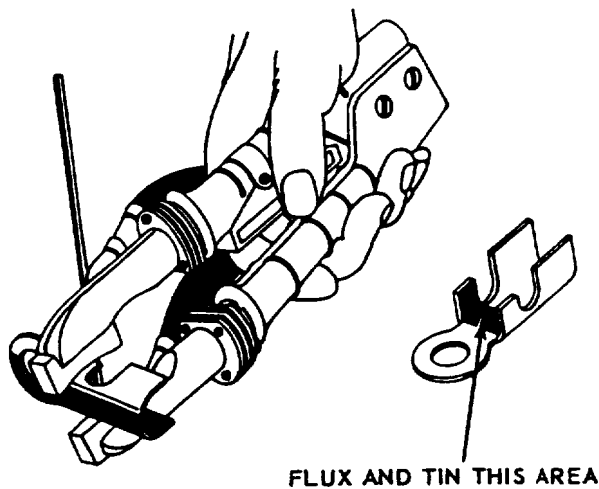

Figure 34. Resistance Tinning of Terminal
- b. Using a torch or the resistance heating pliers, melt a thin coat of silver solder onto inside of wire grip. See figure 34 for use of resistance heating pliers in this operation.
a. Grasp terminal and wire assembly, prepared in accordance with paragraph 33, at wire grip area. The resistance heating pliers are to be in the position shown in Figure 34.